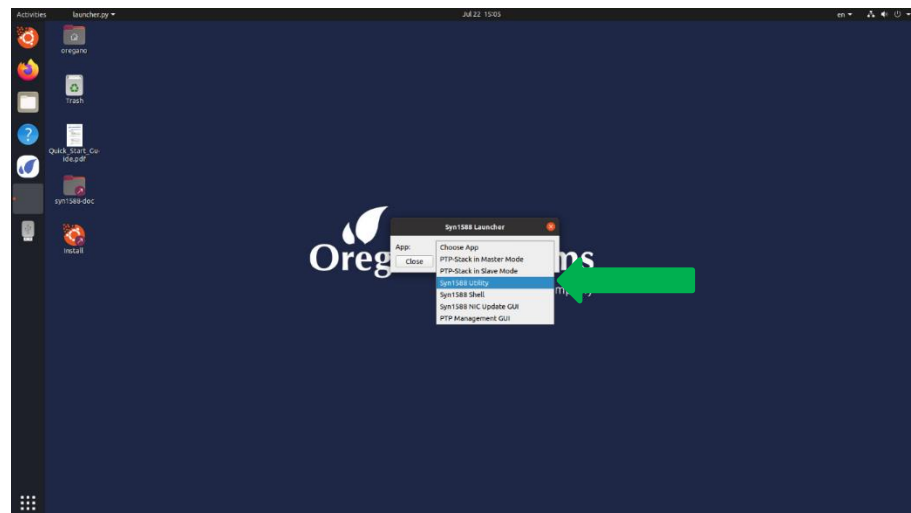

Figure 11 Select to run the syn1588® Utility
3. Select the desired interface to connect with the syn1588® PTP Stack (Figure 11) Note that this drop-down menu will only list syn1588® PCIe NIC or Dual NIC interface cards!